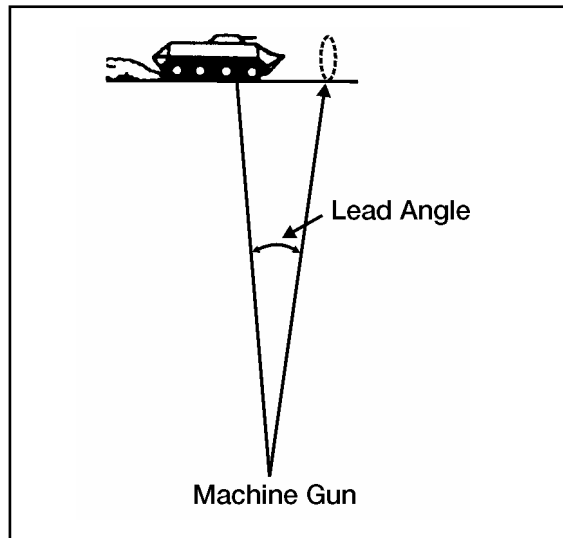

Figure 071-312-3031-7. Moving target engagement
- 8.** Engage a moving target using six- to nine-round bursts (figure 071-312-3031-7).